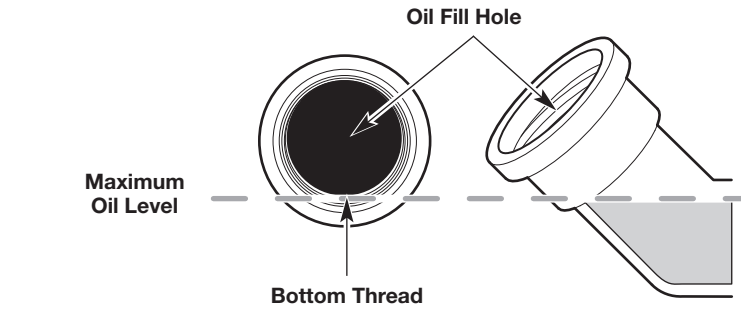

Fig. 35
5. Look into the oil fill hole; use a flashlight if necessary. **The oil level should just touch the bottom thread of the oil fill hole** (Fig. 35).